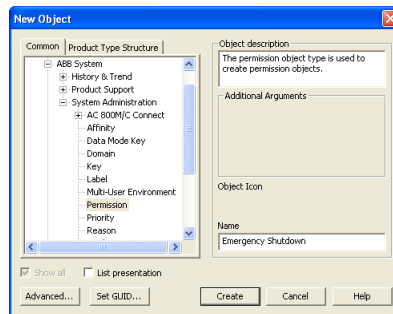

Figure 26. New Object - Permission
4. Select the Permission object of type Permission according to Figure 26, and give it the name of the permission to add.